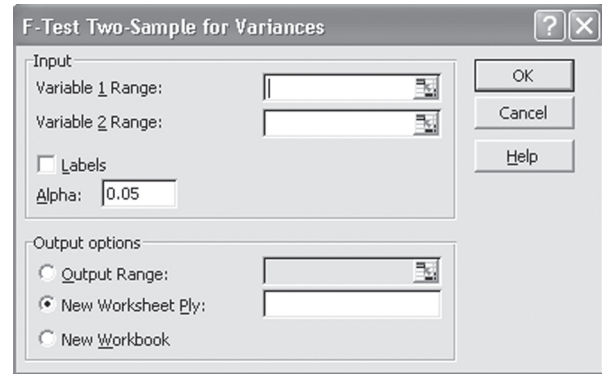

Figure R8.1 | F-Test Window
5. Select the data for Variable 1 (Figure R8.1) by clicking on the little red arrow on that row of the dialog box, then selecting the cells, including the heading, for one column of data. Then press **Enter**.